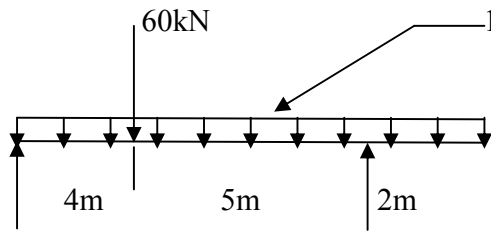

Figure.3
- (a) For a beam as shown in the figure.3, calculate the deflection and slope at the free end by Macaulay's method of double integration. Assume $E = 2 \times 10^5$ N/mm² and $I = 5 \times 10^6$ mm⁴. **07**
- (a) For a beam as shown in the figure.3, calculate the deflection under the point load by Moment Area method OR Conjugate Beam Method. Assume $E = 2 \times 10^5$ N/mm² and $I = 5 \times 10^6$ mm⁴. **07**